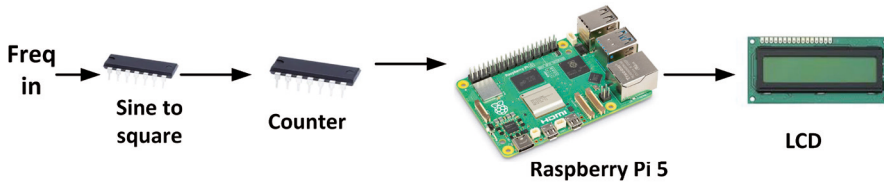

Figure 4.65: Block diagram of the project.
**Block Diagram:** Figure 4.65 shows the block diagram of the project.